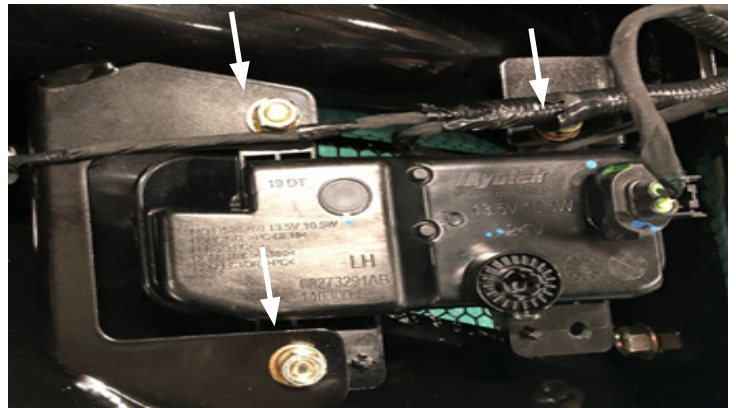

Figure 19
**18. Install the OEM fog lights into the bumper using a 1/2" socket wrench with the three (3) 5/16" bolts, flat and lock washers with nuts (50194-HW). (Figure 19)**